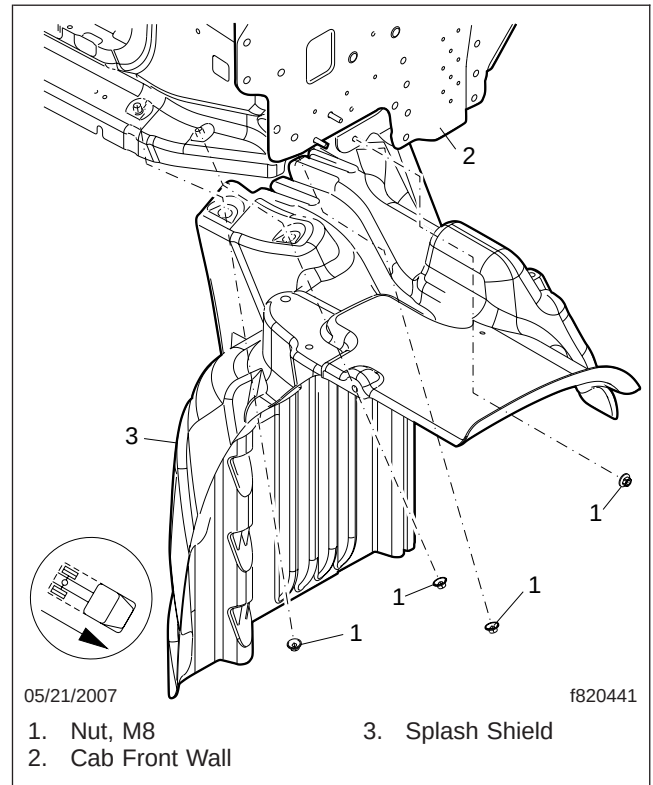

Fig. 2, Splash Shield Installation
- 2.2 From underneath the splash shield, remove the four M8 nuts that attach it to studs on the cab; see Fig. 2.